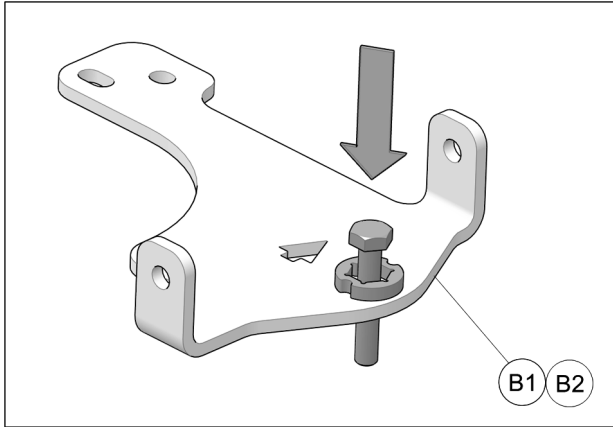

Fig. 4
4. Insert M10x60mm bolt in the rear anchor bracket (B1-B2) as shown in Fig. 4